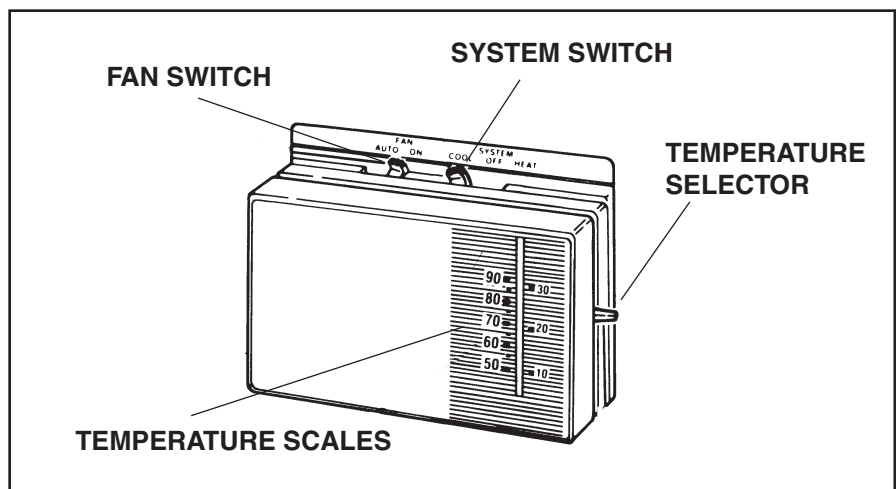

Figure 1. Typical Thermostat
1. Set the thermostat system switch to COOL and the thermostat fan switch to AUTO. (See Figure 1)
1. Set the thermostat system switch to HEAT and the thermostat fan switch to AUTO. (See Figure 1)
Set the thermostat system switch to OFF and the thermostat fan switch to AUTO. (See Figure 1)
Set the thermostat fan switch to ON (may be called CONT on some thermostat models). (See Figure 1)